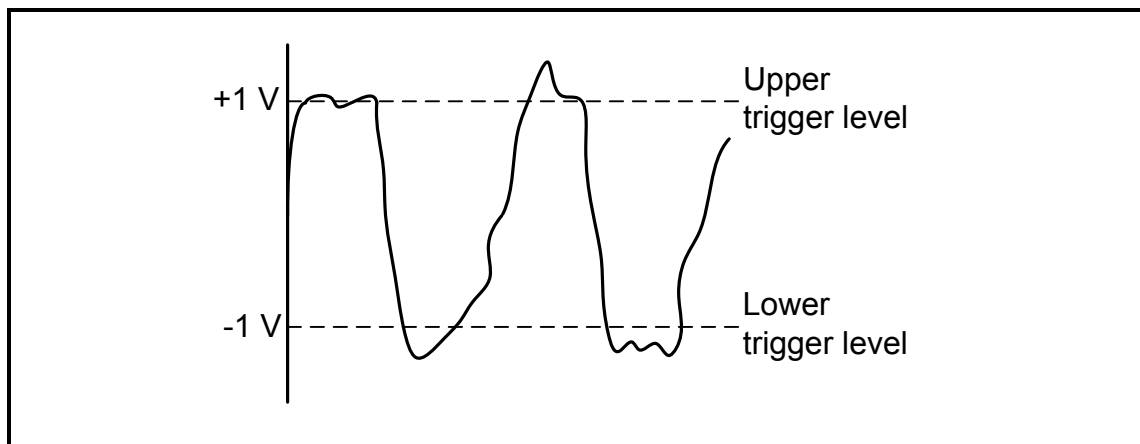

FIGURE 2.5.2: INPUT SIGNAL
2.5.2 Draw the output signal on ANSWER SHEET 2.5.2 if the input signal in FIGURE 2.5.2 below is applied to the circuit.